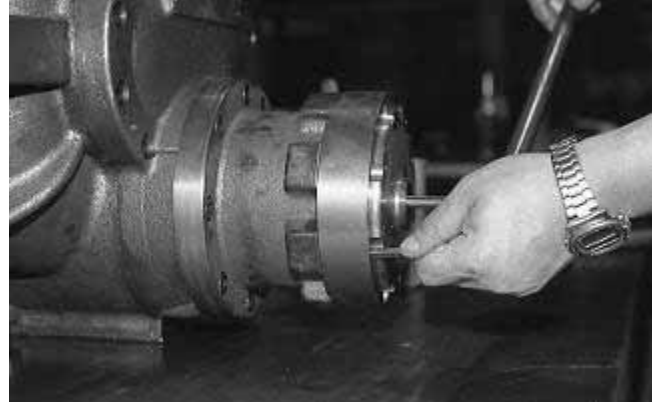

Fig. 3-116 Installation of Unloader Cylinder Cover
- e) With the unloader slide valve in the no-load position, push in the cover while fitting the pin on the push rod in the helical groove on the indicator cam. Secure the unloader cylinder cover with the hexagon socket head cap screws with the hole for connecting the hydraulic piping facing upward (See Fig. 3-116).